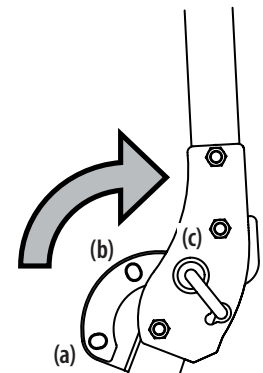

Figure 2-4
2. When both locking pins are secured in the ADJUSTMENT position, slowly lift and rotate the upper ROPS from the TRANSPORT (a) position, past the TRANSPORT WITH BAGGER (b) position and into the OPERATION (c) position. See Figure 2-4.